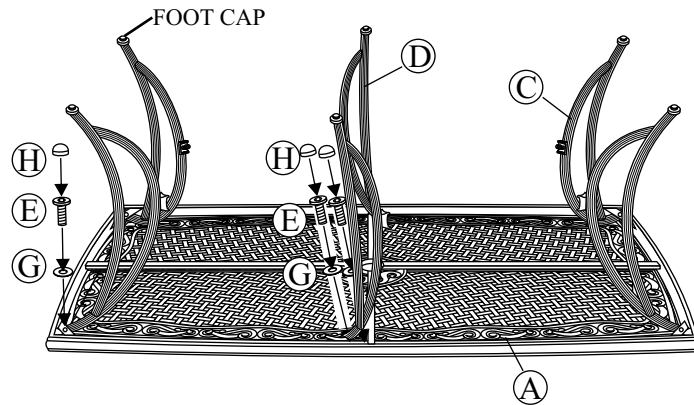

Fig.1
- 1 Place the table top upside down on a flat, non-abrasive surface. Attach a side leg to the table top by using a 1/4"x20 mm bolt and a washer as shown in the Fig.1. Place the leg beneath the table rim corner bracket. Guide the bolt through the hole in the table rim corner bracket and into the pre-drilled hole in the side leg. Hand tighten only. **Do not tighten completely.** Some adjustments may be necessary to ensure proper alignment of the table legs. Repeat for the other three side legs. Attach the middle leg using the 1/4"x20 mm bolts and washers as shown in the Fig.1. Hand tighten only. **Do not tighten completely.** Repeat for the other middle leg.
**1** **Important: We recommend 2 people work together to assemble the chair.** Note the arrow labels on the "U" bar and the rocker assembly. Also note the horseshoe shape of the rocker plate. Point the open end of the horseshoe away from you. The arrows on the rocker assembly should be pointing towards you. Set the chair frame on the rocker assembly with front of the seat facing you and the arrows on the "U" bar pointing towards you as shown in **Figure 1**. This is very important for a safe, balanced rocking motion. **If chair frame has been properly positioned on the rocker assembly, all arrows on the "U" bar and rocker assembly will be pointing in the same direction.**